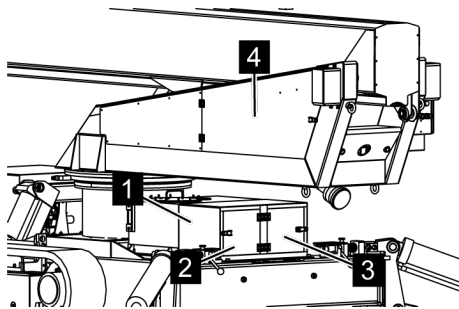

Fig. 112: Shuttle valve cover
2. → Open the doors (Fig. 112/2 and 3) or completely remove the cover (Fig. 112/1).
3. → Open the door (Fig. 112/4).